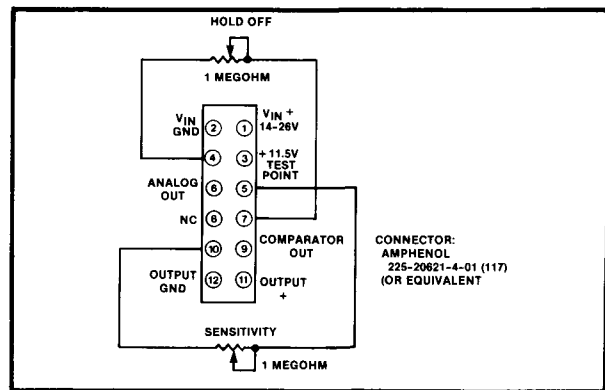

Figure 1 PIN Connections
Mating Connector	Amphenol 225-20621-4-01(117) or equivalent. (See Figure 1 for PIN designations)